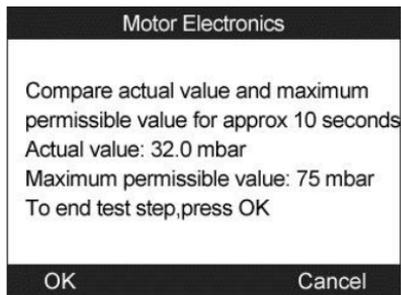

Figure 13-40
- c) Check the exhaust backpressure with engine running idle. The tool will read off the actual backpressure value and compare with the upper limit. (Figure 13-40). Select **OK** to continue the test or **Cancel** to return to previous menu.